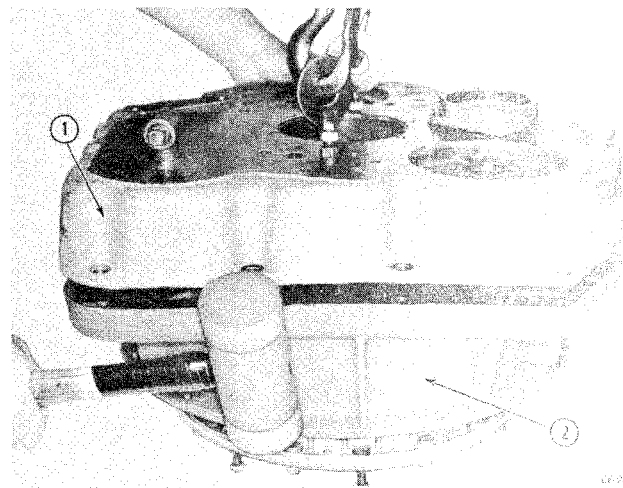

Figure 3-12
Remove the cap screws that join the front (1, Fig. 3-12) and rear (2) housings. Using a hoist and lifting eyes, raise the assembly approximately one inch. Strike the lower housing at several points with a plastic mallet to separate the housings.